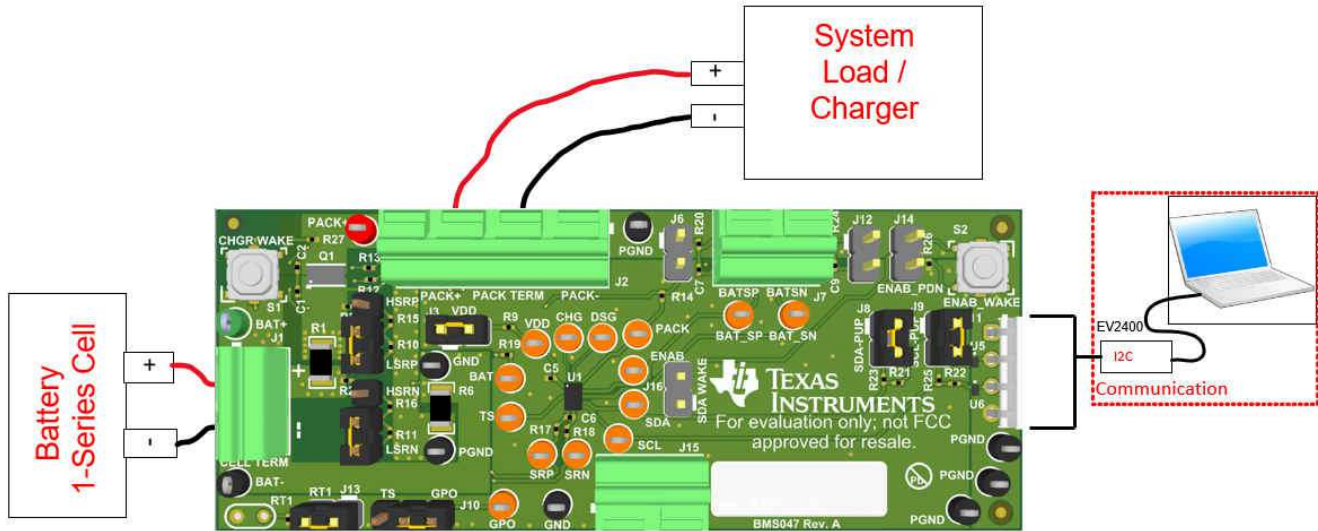

Figure 7-1. Connect the BQ27Z746 Circuit Module to a 1SxP
Figure 7-1 shows how to connect the BQ27Z746 circuit module to the battery, personal computer (PC), and a system load/charger.